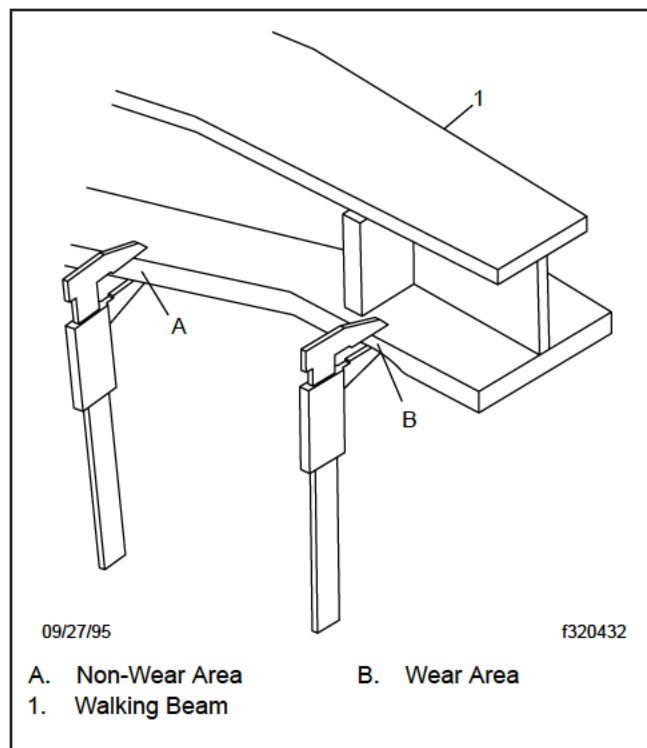

Fig. 7, Walking Beam End Wear Thickness
3. Manipulate the walking beam so that a micrometer, vernier, or dial caliper may be used to determine the wear area thickness on the bottom face. See **Fig. 7**. Measurements should be taken a minimum of 1/2 inch from the beam flange edges to eliminate any edge wear that may have occurred. Subtract the wear area thickness (see **Fig. 7**, Ref. B) from the thickness at the non-wear area (see **Fig. 7**, Ref. A) to determine the amount of wear.